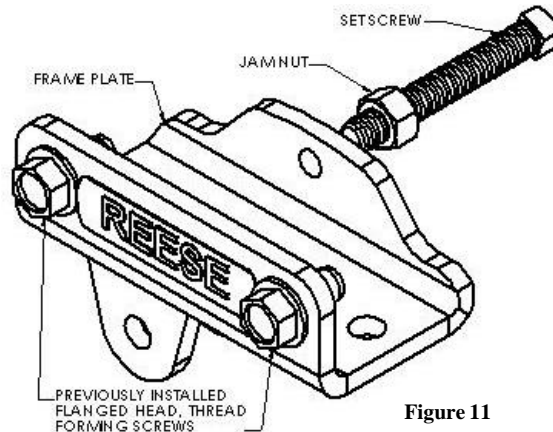

Figure 11
4. Install 1/2-13 Hex Nut (Jam Nut) onto the 1/2-13 X 3 1/2" Square Head Bolts and Install into the frame brackets as shown in figure 11.